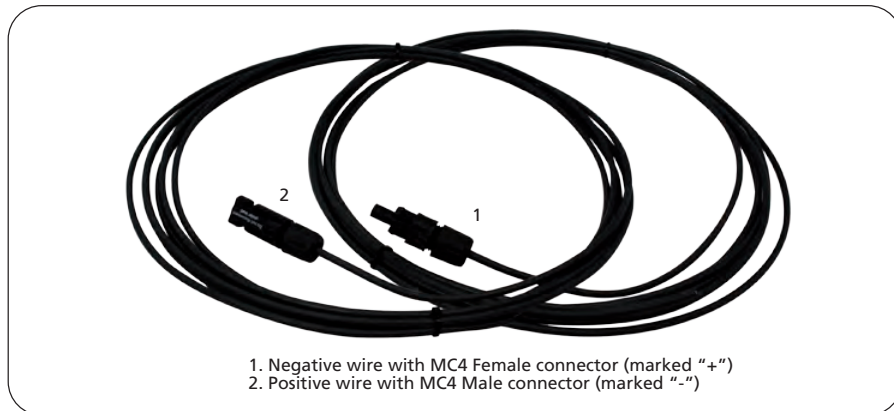

Fig. 4.5. Solar Panel Connecting Wires kit "SCW-20-2"
1. Solar Panel Connecting Wires kit "SCW-20-2" consisting of 2 pre-assembled, 20 ft, AWG #12, Positive (+) & Negative (-) PV extension wires have been provided (see Fig. 4.5). The wires have MC4 mating connectors on one end for connecting to the solar panel & bare ends on the other side for connecting to the Charge Controller. The wires are marked (+) & and (-) for identification of the polarity.